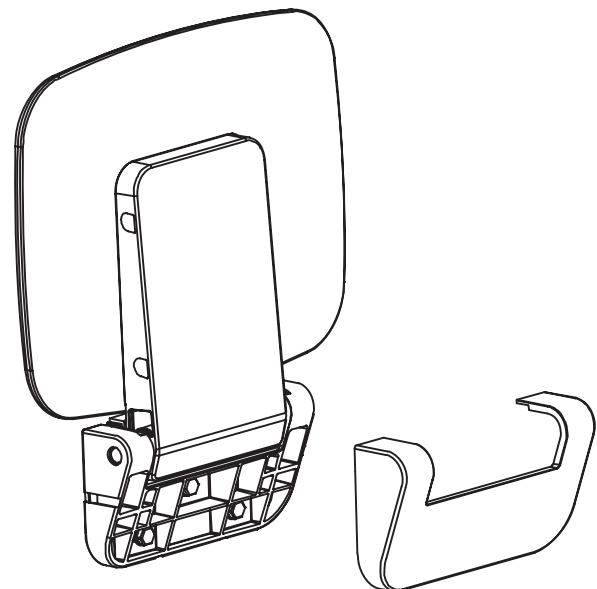

Fig.2
7. Once secured in position, clip the chrome cover plate over the wall bracket to conceal the wall fixings and complete the assembly of the shower seat - See Fig.2